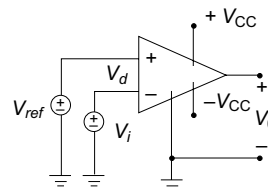

Fig. 9.64
17. If $V_{ref} = -2 \text{ V}$ and $V_i = 5 \sin \omega t$ in Fig. 9.64, draw the output waveform.